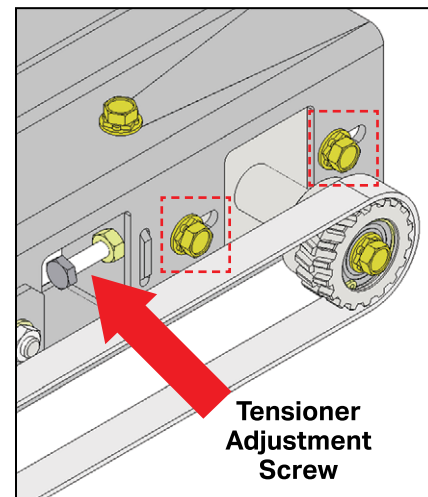

Figure 16: Tensioner Pulley and Adjustment
Loosen the tensioner assembly slightly, loosening the (2) $\frac{1}{4}$ -20 bolts on the face of the sub channel, so the tensioner assembly can slide left or right, as displayed in Figure 16.